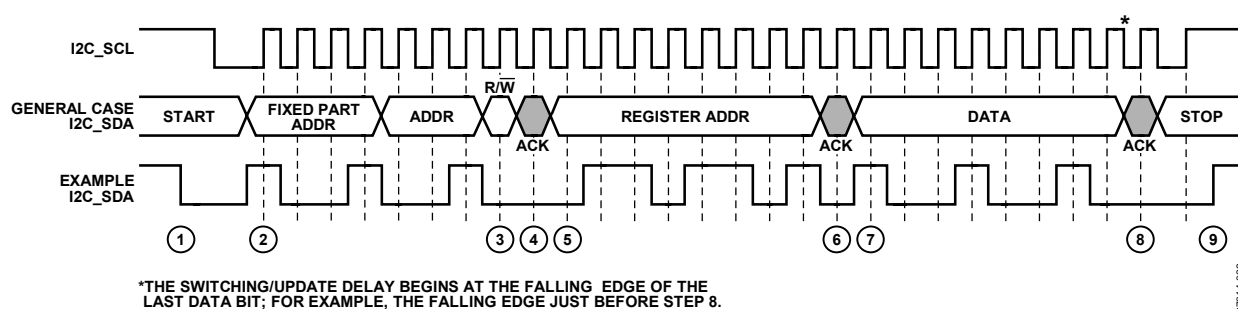

Figure 29. I²C Write Diagram
To write data to the AD8197A register set, an I²C master (such as a microcontroller) needs to send the appropriate control signals to the AD8197A slave device. The signals are controlled by the I²C master, unless otherwise specified. For a diagram of the procedure, see Figure 29. The steps for a write procedure are as follows:
3. Send the write indicator bit (0).
- 9a. Send a stop condition (while holding the I2C_SCL line high, pull the I2C_SDA line high) and release control of the bus to end the transaction (shown in Figure 29).
There is a delay between when a user writes to the configuration registers of the AD8197A and when that state change takes physical effect. This update delay occurs regardless of whether the user programs the AD8197A via the serial or the parallel control interface. When using the serial control interface, the update delay begins at the falling edge of I2C_SCL for the last data bit transferred, as shown in Figure 29. When using the parallel control interface, the update delay begins at the transition edge of the relevant parallel interface pin. This update delay is register specific and the times are specified in Table 1.